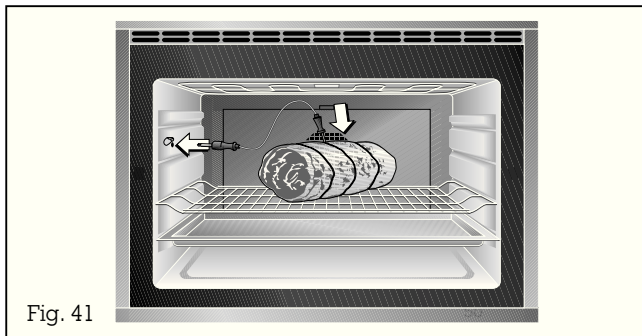

Fig. 41
- Insert the core temperature sensor in the front left socket in the oven. (Fig. 41)
- Turn the “Temperature” control knob on the right (top oven) to the 0 position. (Fig. 41)